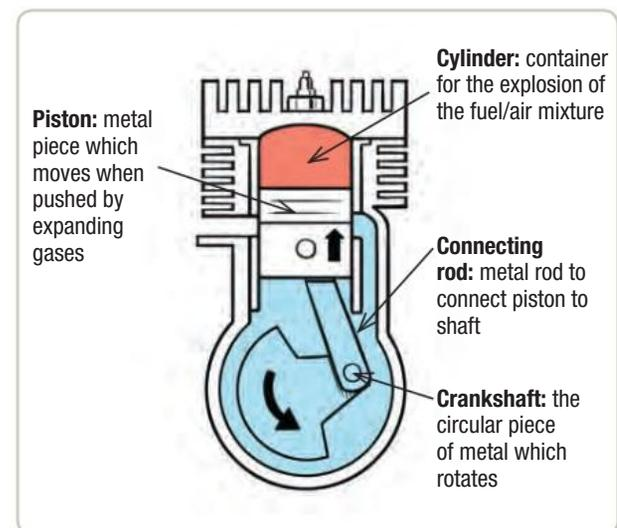

Figure 5.15 Working parts of a two-stroke engine
Imagine that we cut through the engine shown in Activity 4. In that way, we can see inside, and look at the parts that do the work. Figure 5.15 shows the working parts. As you study this diagram, think of the person pushing the pedal of the bike. The idea is the same.
- 1 Examine a two-stroke engine. Ask the operator to help you to identify the parts shown in Figure 5.15.